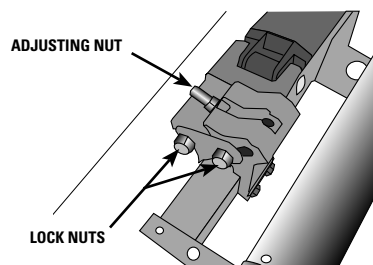

FIGURE 5
2. Loosen the two lock nuts on the end of one arm. See figure 5.